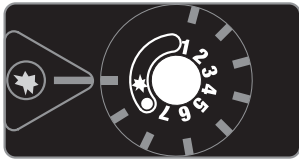

Fig 1
1. To light the pilot, press in and turn the gas control knob anticlockwise to the pilot position. (Fig 1)
4. To turn the burner off, turn the control knob clockwise to the "PILOT" position. This will leave the pilot burning. (Fig 1)